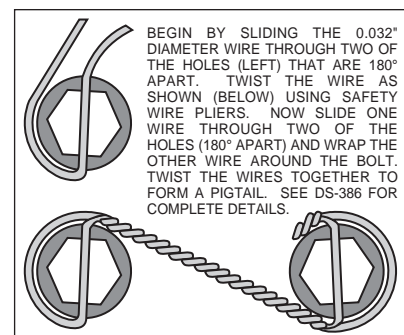

Figure 3. Safety Wire Diagram
- Install wheel studs (8) into the hub (9). Torque to 77 ft-lb. **NOTE:** There are two five lug patterns in the hub (5 x 4.50 and 5 x 4.75). Make sure of the correct hole pattern for the correct wheel application before installing studs into hub.
- Pack the large inner bearing cone (10) with high temperature disc brake bearing grease (available from your local auto parts store) and install into the backside of the hub (9).
- Install the grease seal (11) by pressing into the backside of the hub (9).
- Pack the small outer bearing cone (17) with high temperature disc brake bearing grease and install into front of hub (9). Slide the hub assembly (8, 9, 10, 11 and 17) onto the spindle. Secure using spindle washer (18), stock adjusting nut and nut locking device. Adjust bearing using a 12" wrench to tighten the adjusting nut while turning the rotor. When the rotor binds slightly, all the bearing parts are seated properly. Back of the nut 1/6" to 1/4" of a turn or enough to allow 0.001" to 0.007" end play. Lock the nut with a new cotter pin. **WARNING:** Failure to back off the adjusting nut may cause the bearing to run hot and be damaged, which could cause the wheel to lock or come off during operation, creating a risk of serious bodily harm.
- Install the o-ring (19) on the dust cap (20), and screw dust cap assembly onto the hub (9). Friction created by the o-ring (19) on the dust cap (20) keeps it from unscrewing.
- With the larger I.D. side of the rotor (12) facing away from the hat (13), bolt rotor (12) to hat (13) through the backside of the rotor using washers (14) and bolts (15). Using an alternating sequence, apply red *Loctite*® 271 to the threads and torque bolts to 155 in-lb. For an added measure of security, the bolts may be safety wired using standard 0.032 inch diameter stainless steel safety wire as shown in Figure 3. Please refer to Wilwood's data sheet DS-386 for complete safety wire installation instructions.
- Slide the rotor/hat assembly over the studs (8) in the hub (9) taking care to align the small countersunk holes in the hat (13) with the small threaded holes in the hub (9). Install three flat head socket head screws (16) through the small holes in the hat (13) and torque to 85 in-lb.